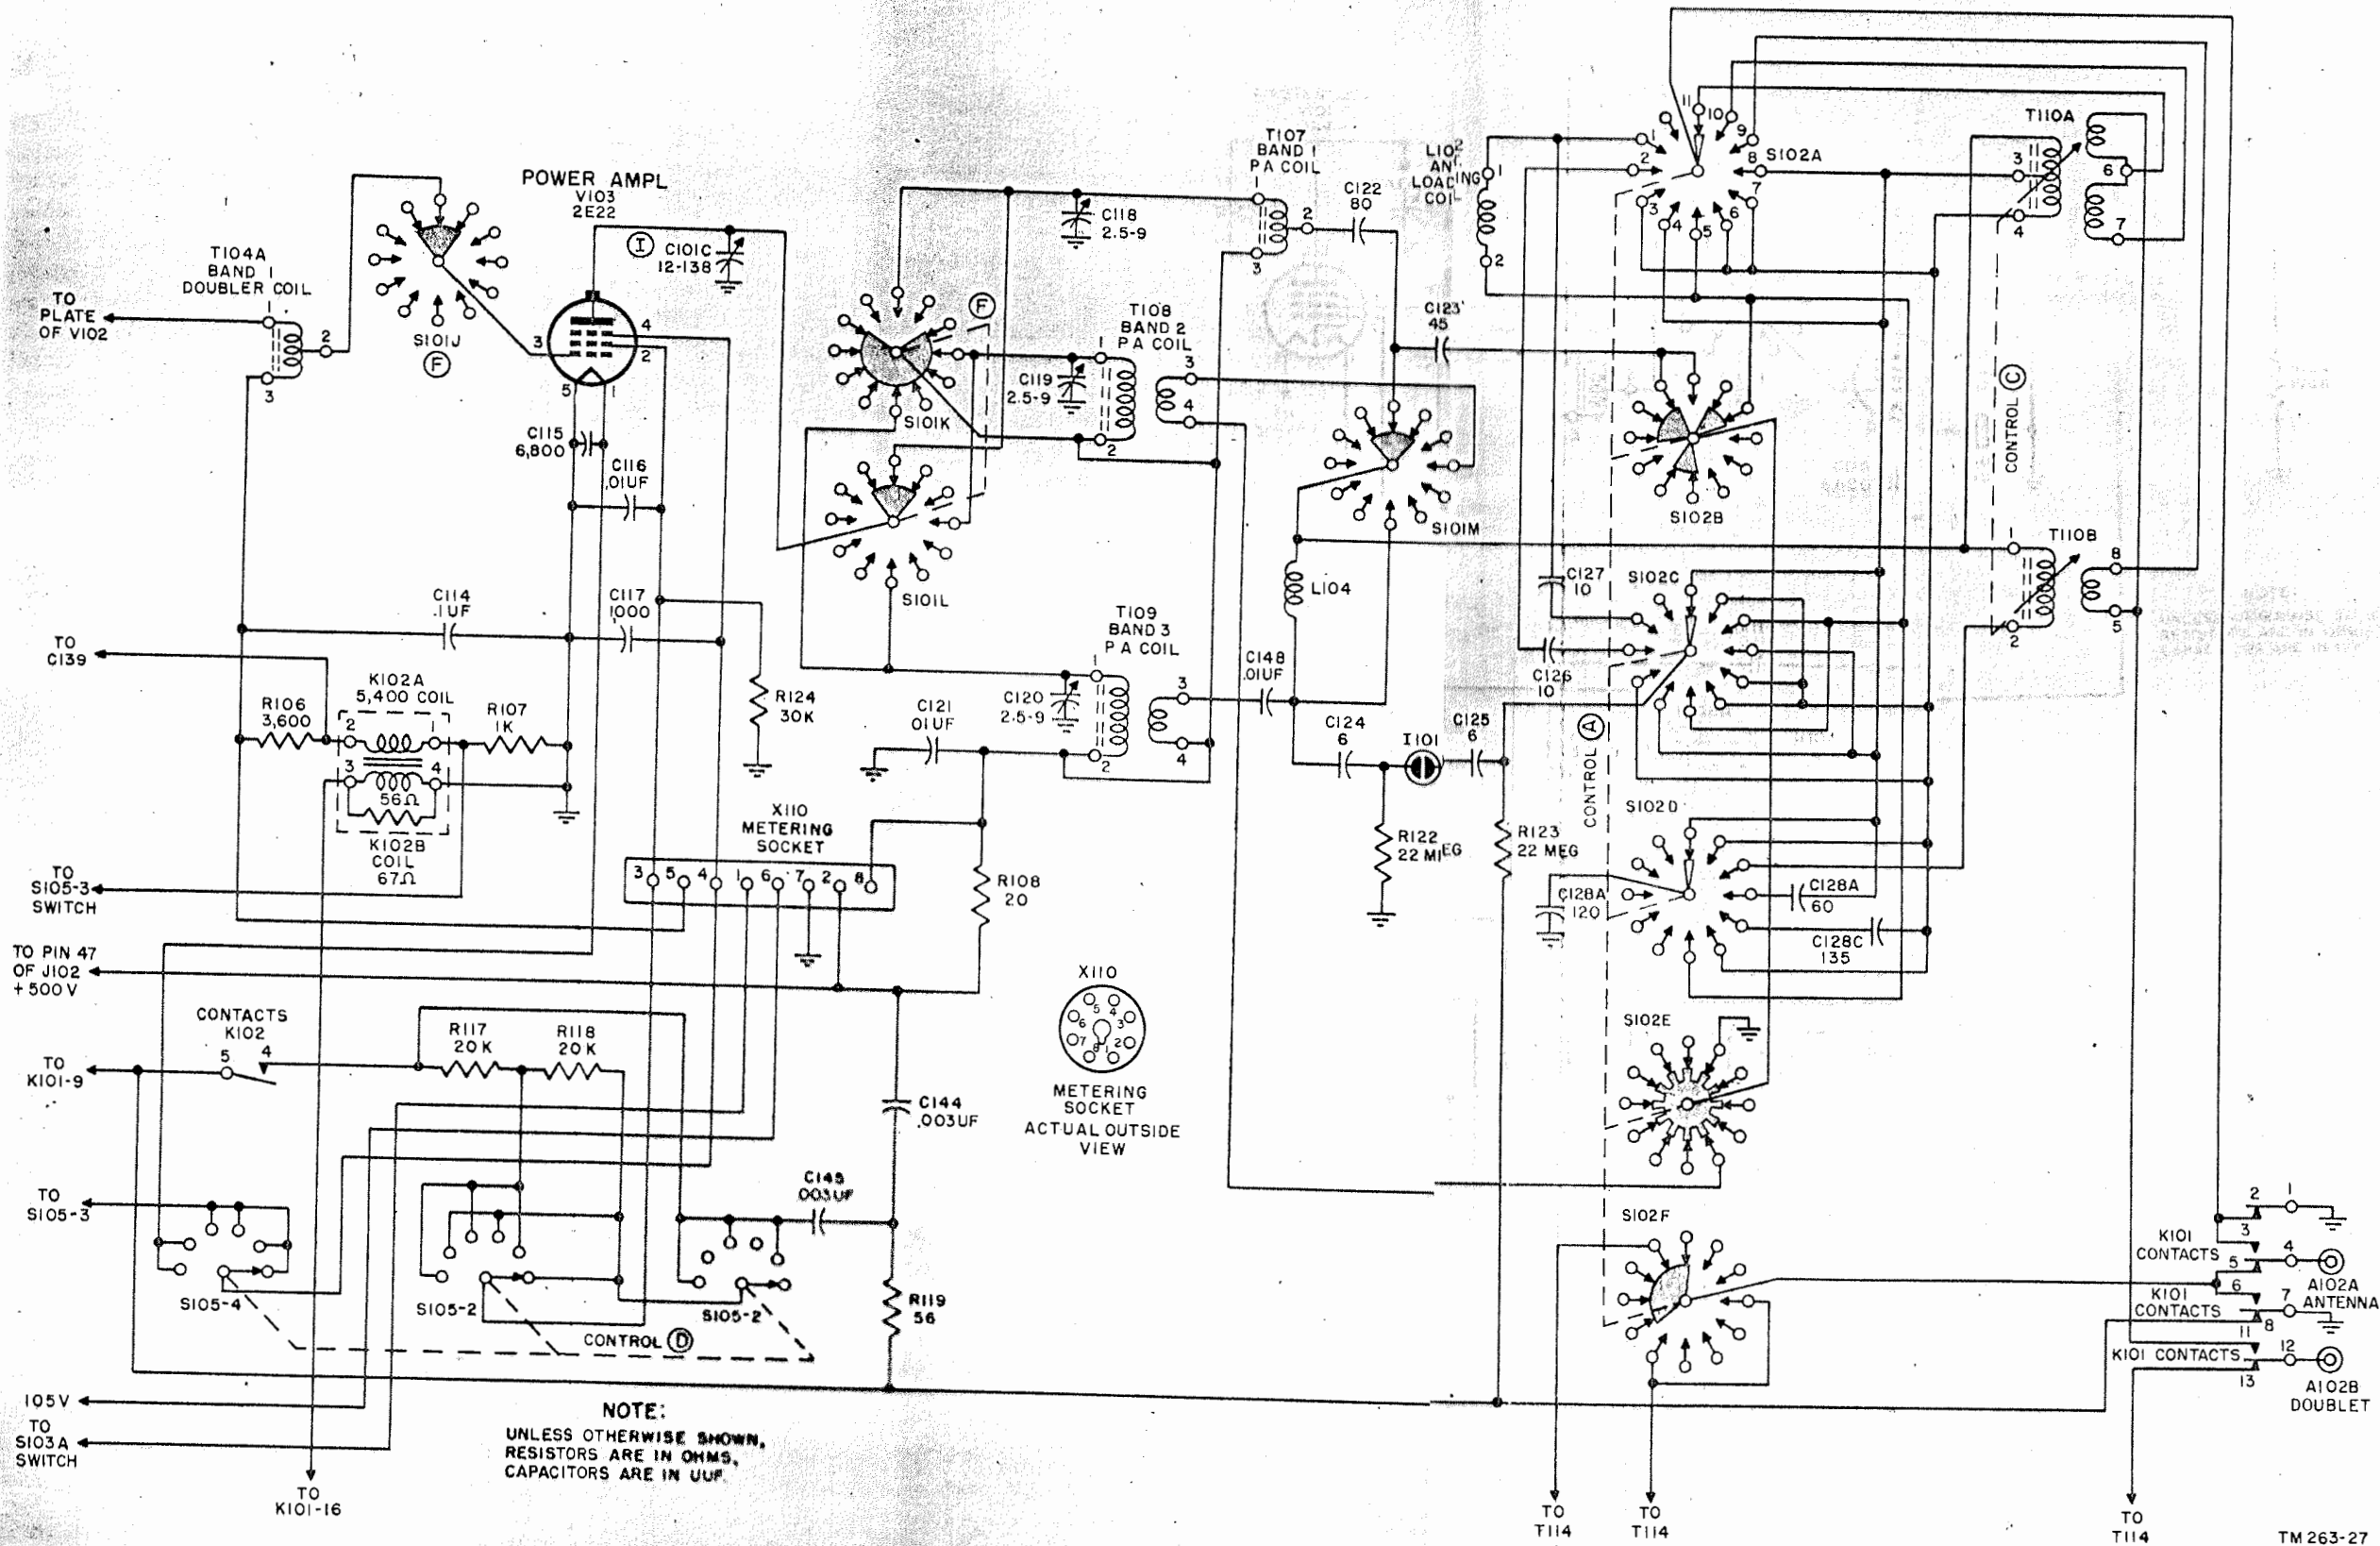

Figure 73. Transmitter power amplifier stage V103, simplified schematic.
95. Power Amplifier Stage V103, Tube Type 2E22 (fig. 73)
i. PLATE CIRCUIT (fig. 73). The signal from the plate of V103 enters the coil selector switch S101L, control ①. Coil T107, T108, or T109 may be selected, depending on the band of transmission desired. Capacitor C101C is the main tuning capacitor for the coil selected and is ganged to
the other tuning capacitors, control ②, for the preceding stages. Switch S101K shorts out those tuning coils which are not in use. Considering band 1, capacitor C118 is the alinement trimmer. The bottom of each coil is connected to resistor R108 and from there directly to the 500-volt d-c supply (fig. 73). Two leads are connected from across R108 to the metering socket. This is a means whereby the current in the plate circuit can be measured. Capacitor C121 is the bypass for R108, and places the lower end of coils T107, T108, and T109 at ground r-f potential.